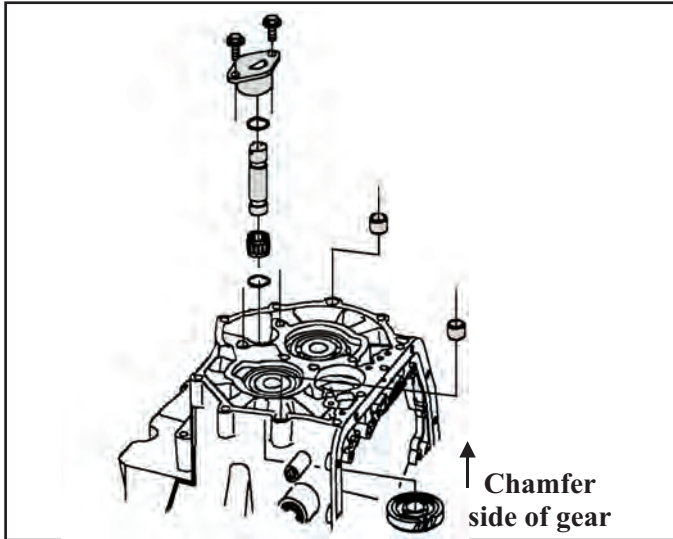

Figure 193
8. Install a new O ring onto one end of the reverse idler gear shaft. Lube and install the reverse idler gear bearing and install a new O ring onto the opposite end of the shaft (See Figure 193).
9. Install the reverse idler gear with the chamfer side of the gear towards the rear of the case (See Figure 193).
10. Lube the O rings and install the shaft through the rear of the case. Use a twisting motion and make sure the O rings stay in position (See Figure 193).
11. Install the reverse idler shaft cap using a twisting motion and torque the two bolts to 15 Foot lbs. (See Figure 193).